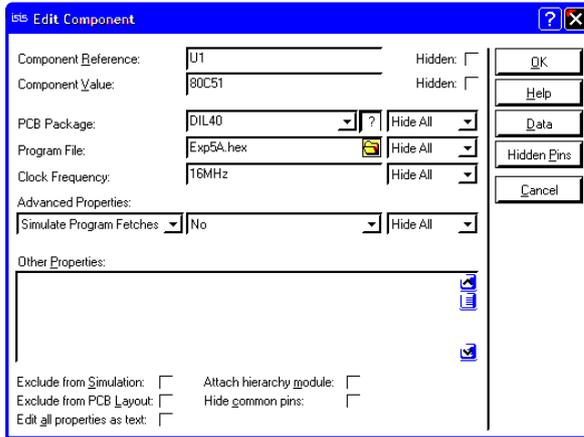

Fig. 4. Edit component window of 8051
- 3- Right click once on the 8051 processor. The processor will turn to red, indicating that it is selected. Left click once on 8051 to open the “edit component” window of 8051 seen in Fig.4. The Program File shall contain the file name Exp5A.hex, which is generated in Section 3.1. You can link a file using the file browser icon, or directly by editing the file name. Do not forget to OK the new file name.